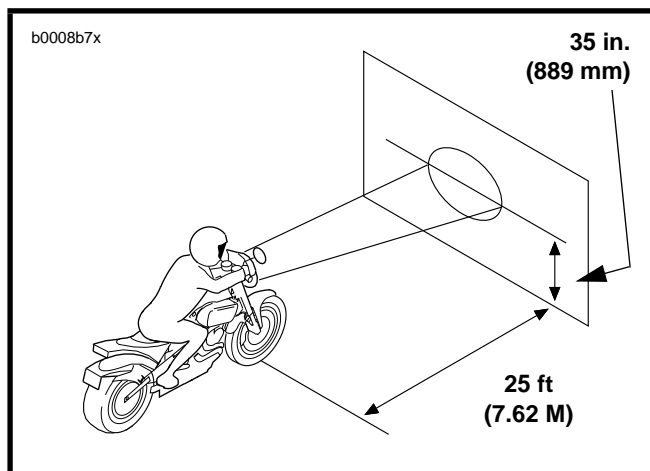

Figure 1-48. Checking Headlamp Alignment
3. See Figure 1-48. Point front of motorcycle toward a screen or wall which is 25 ft (7.62 M) away from front tire contact patch on floor (i.e., directly below front axle).
2. See Figure 1-48. Tilt headlamp up or down to aim it in relation to the horizontal line. At the same time, turn headlamp right or left to direct light beam straight ahead.